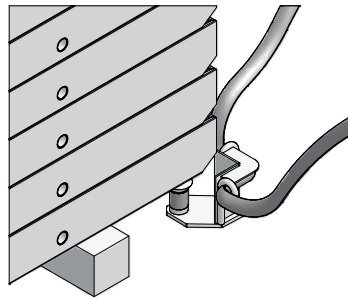

Fig. 72.3
2. Push the suspension device under the stack with your foot (Fig. 72.3).